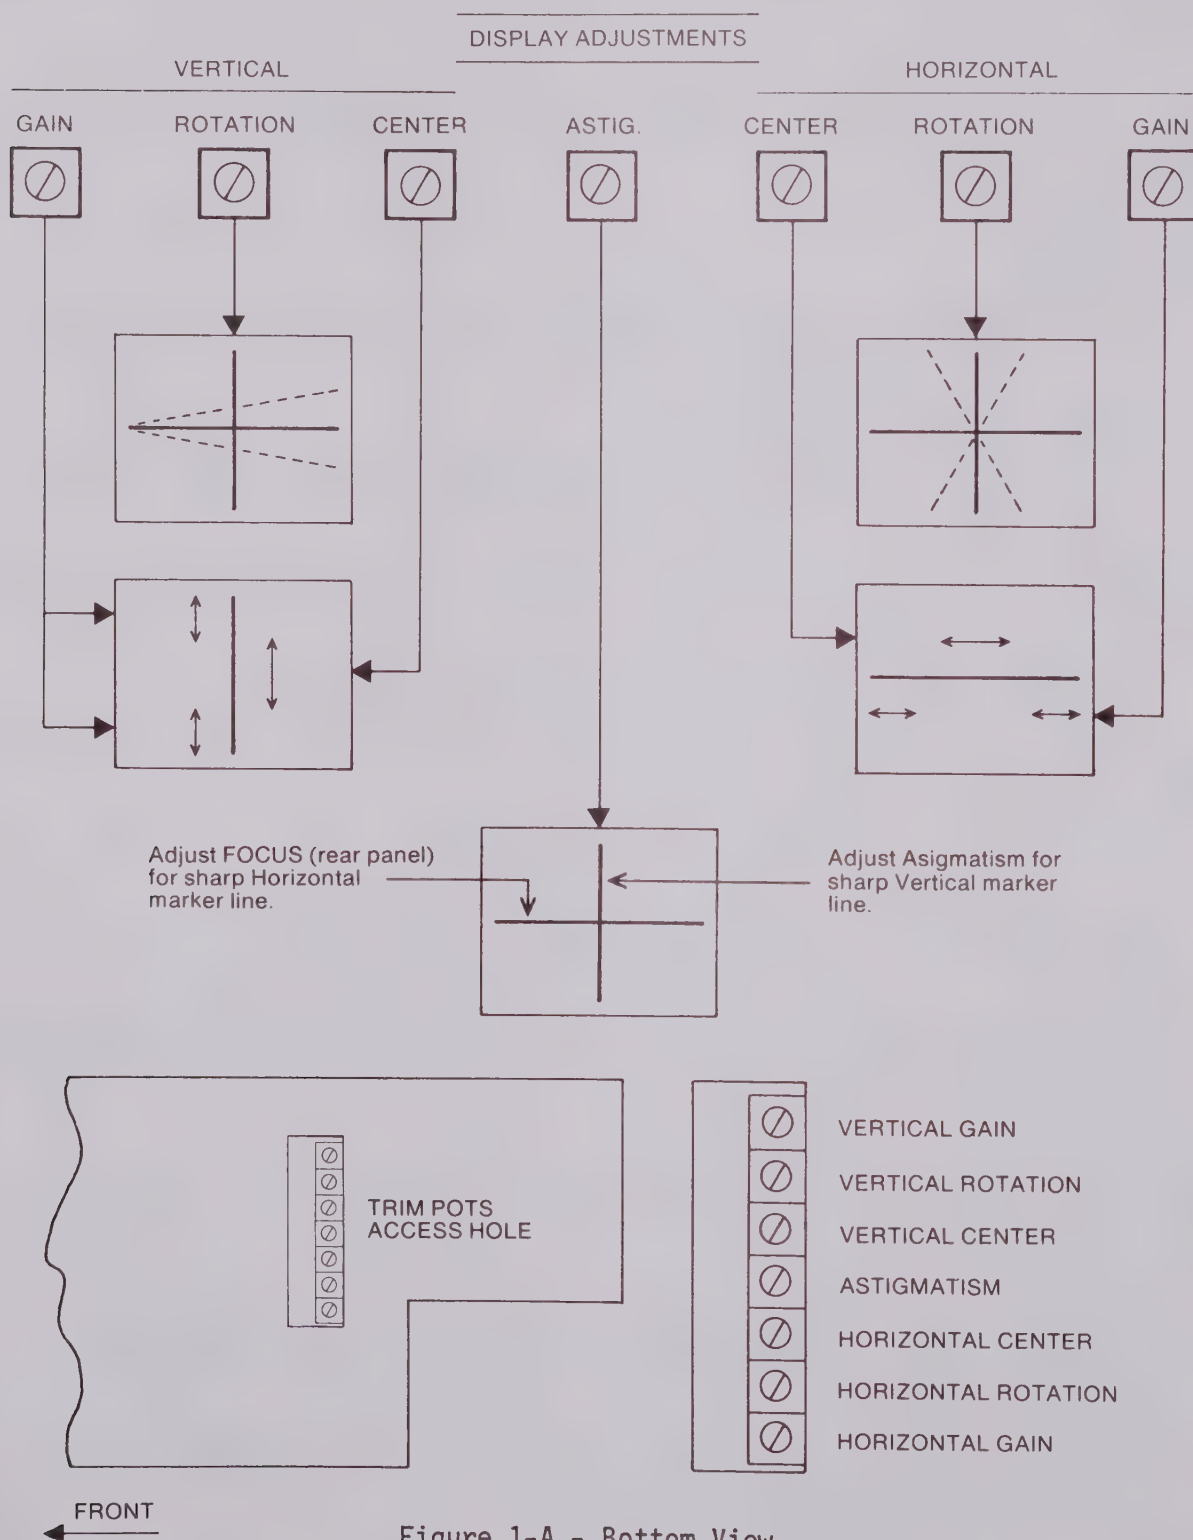

Figure 1-A - Bottom View
2. Apply square wave to the (+) input BNC using the Input Capacitance network illustrated in Figure 1. *USE 47pF Normalizer 7PS*
2. Apply square wave to the (-) input BNC using the Input Capacitance network illustrated in Figure 1.